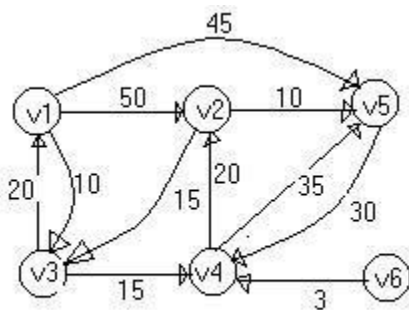

Fig 7.1
Step 1: find the adjacency matrix for the given graph. The adjacency matrix for fig 7.1 is given below
The solution for the fig 7.1 can be continued as follows